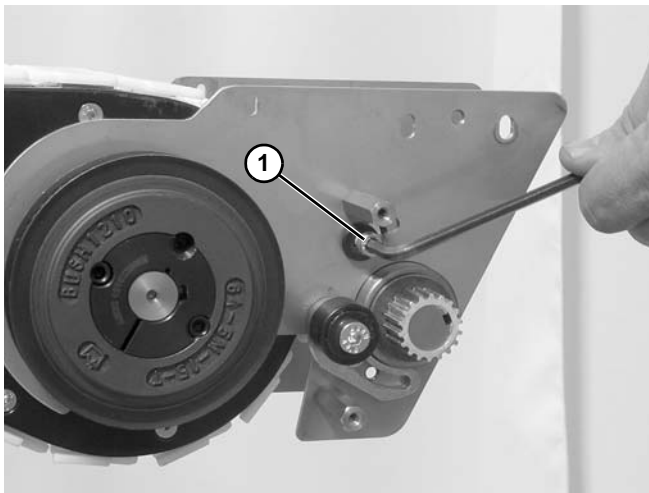

Figure 166
12. Remove socket head screw (**Figure 166, item 1**) on both sides of the conveyor and remove idler assembly.